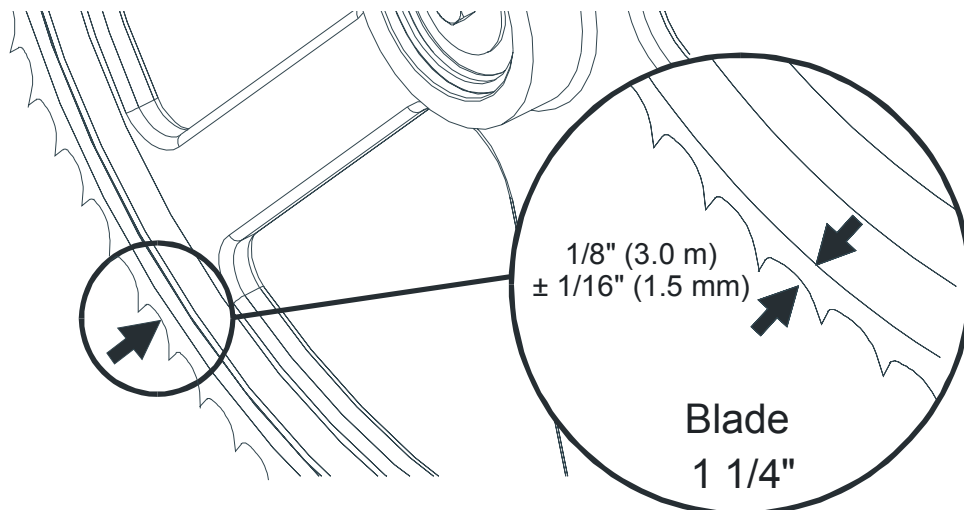

FIG. 2-8
**See Figure 2-8.** Position 1 1/4" wide blade on the wheels so the gullet is 1/8" (3 mm) + 1/16" (1.5 mm) out from the front edge of the wheel.